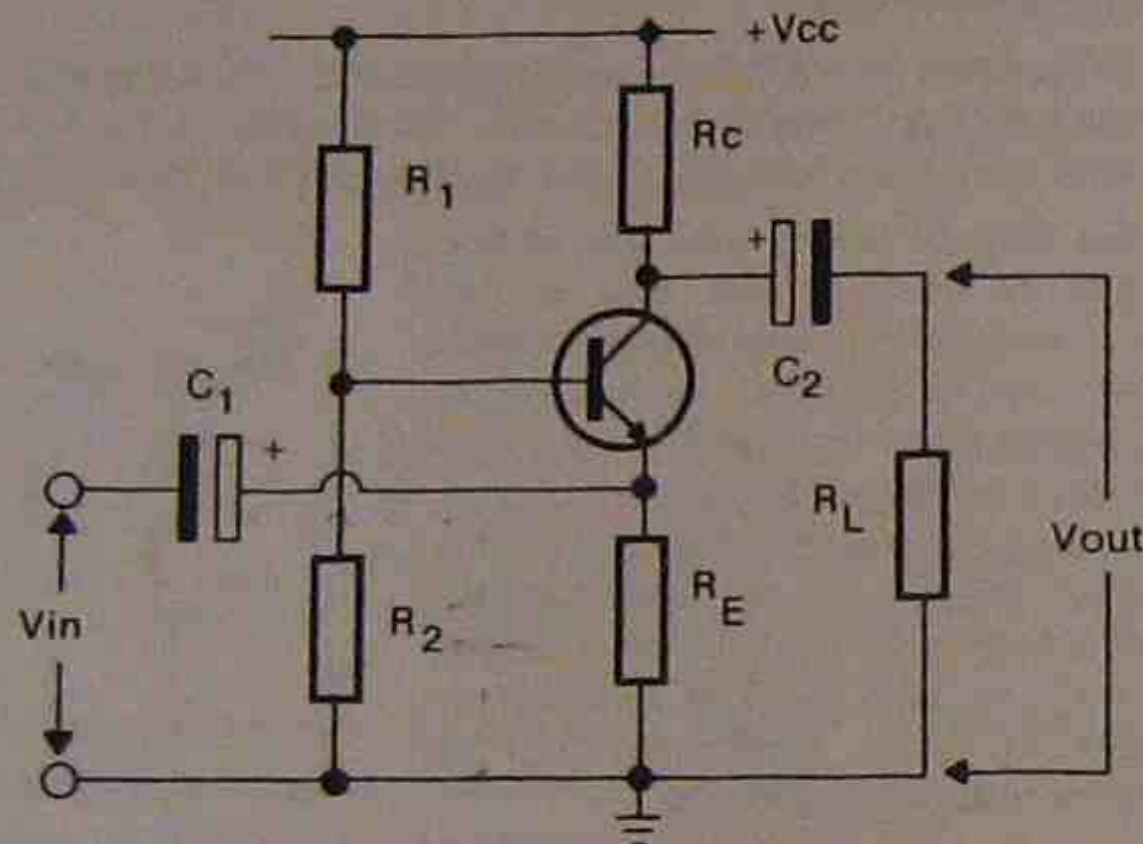

Fig.4: The common base amplifier
The third configuration for a transistor amplifier is the common base (CB) connection, as shown in Fig.4. This amplifier has the input signal applied to the emitter and the output is taken from the collector. The base terminal is connected to bias resistors, and a capacitor is often connected across R_2 to ensure the base has no AC signal present. Thus, the base is regarded as being connected to the common line as far as AC signals are concerned. The input impedance of the CB amplifier is low, and the output impedance equals the collector resistor R_C . Unlike the CC amplifier, the CB configuration has voltage gain, but no current gain.